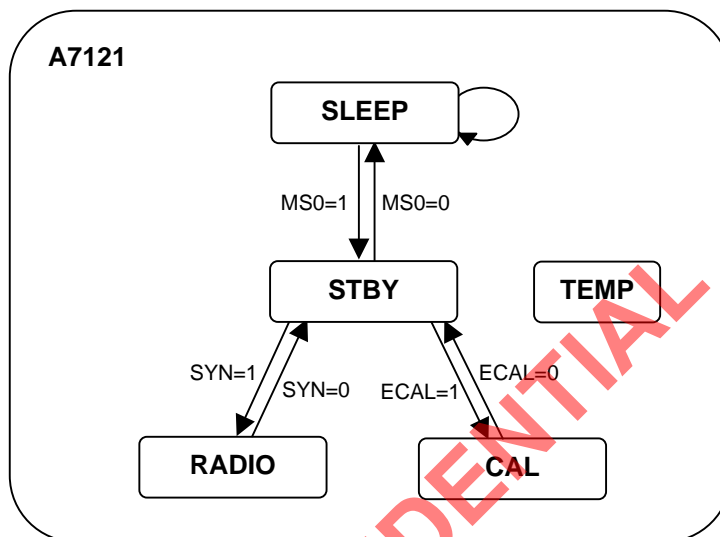

Figure 1: A7121 State Diagram
The state machine inside the chip controls the A7121 GFSK transceiver operation. During normal operation, the A7121 is in one of five states (i.e., SLEEP, STBY, RADIO, CAL, TEMP). The state diagram is shown in Figure 1 below.
The A7121 must be in the TEMP (Temperature measurement) state to do temperature measurement as shown in Figure 1. The TEMP state is an independent state. It may execute temperature measurement in the TEMP state simultaneously when the transceiver is in other state (except the SLEEP state) for doing some thing. For doing temperature measurement, there are some configurations must be set. First, the EXDR bit (**Mode control register** bit 8) must be set to 1. The ET bit (**Calibration control register** (I) bit 0) for enabling temperature measurement must be set to "1" to enter the TEMP state. After the measurement is done, the ET bit will be set to "0" automatically and the transceiver will leave the TEMP state. The state transition to the TEMP state will postpone if the calibration process or RSSI measurement is executing. Similarly, the state transition of the CAL state or the RSSI sub-state will delay until the temperature measurement is done. The following figure is RSSI measurement timing.